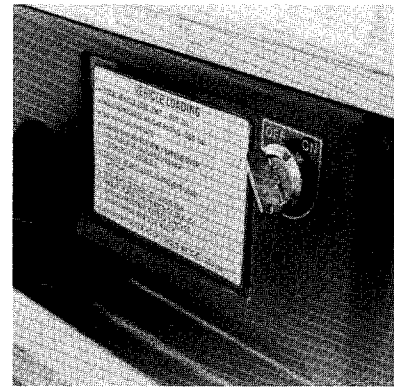

Figure 2-2
Key Switch - The key switch is mounted on the dash to the right of the steering column (Figure 2-2). It has two (2) positions, "On" and "Off" which are clearly labeled. The key is removable in the "Off" position only.